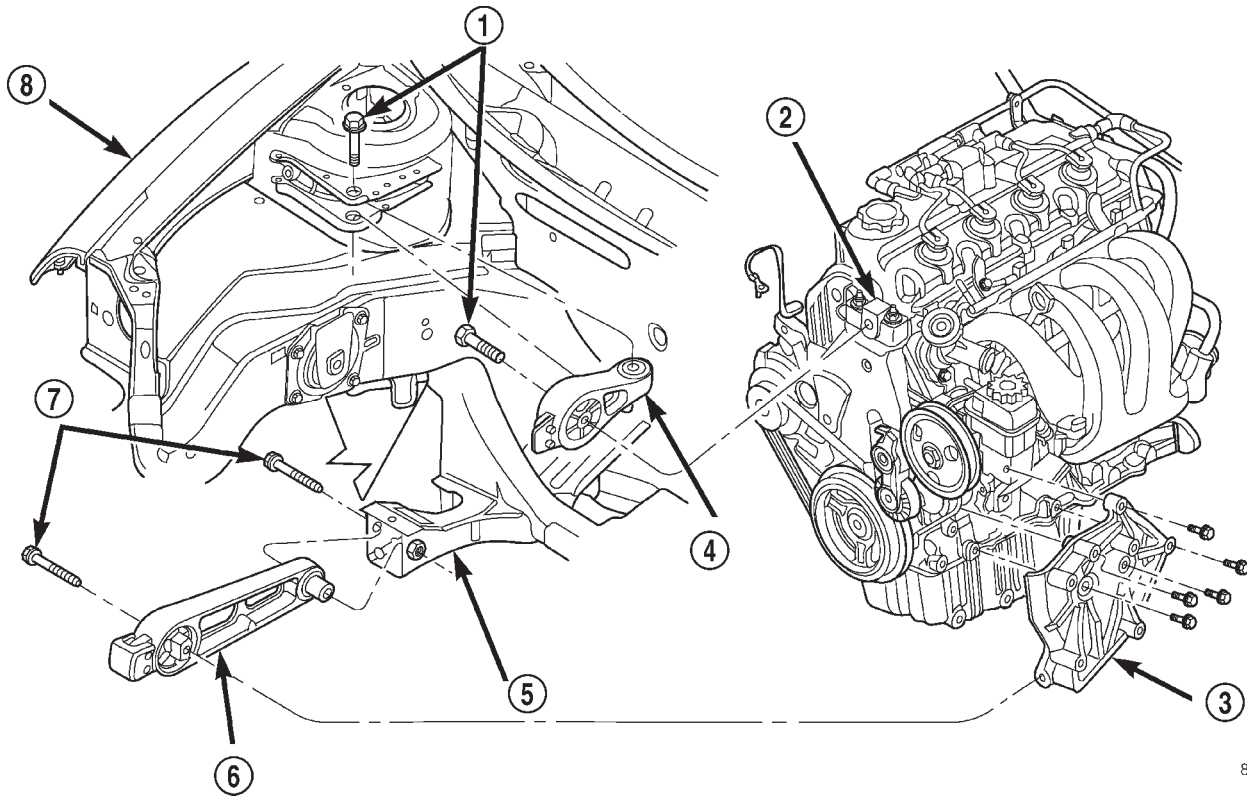

Fig. 10 Torque Struts—Upper and Lower
- (1) Remove bolts attaching strut to shock tower bracket and engine mount bracket (Fig. 10).
- (2) Remove the upper torque strut.
- (1) Raise vehicle on hoist.
- (2) Remove right side splash shield.
- (3) Remove bolts attaching lower strut to cross-member and strut bracket (Fig. 10).
- (4) Remove lower torque strut.
(4) With the engine held at the proper position, tighten both the upper and lower torque strut bolts to 118 N·m (87 ft. lbs.) (Fig. 10).
(5) Remove the floor jack.